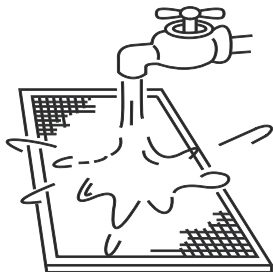

Figure 12.4
- b. The air intake side should face down when using clean water. (Refer to Fig.12.4)